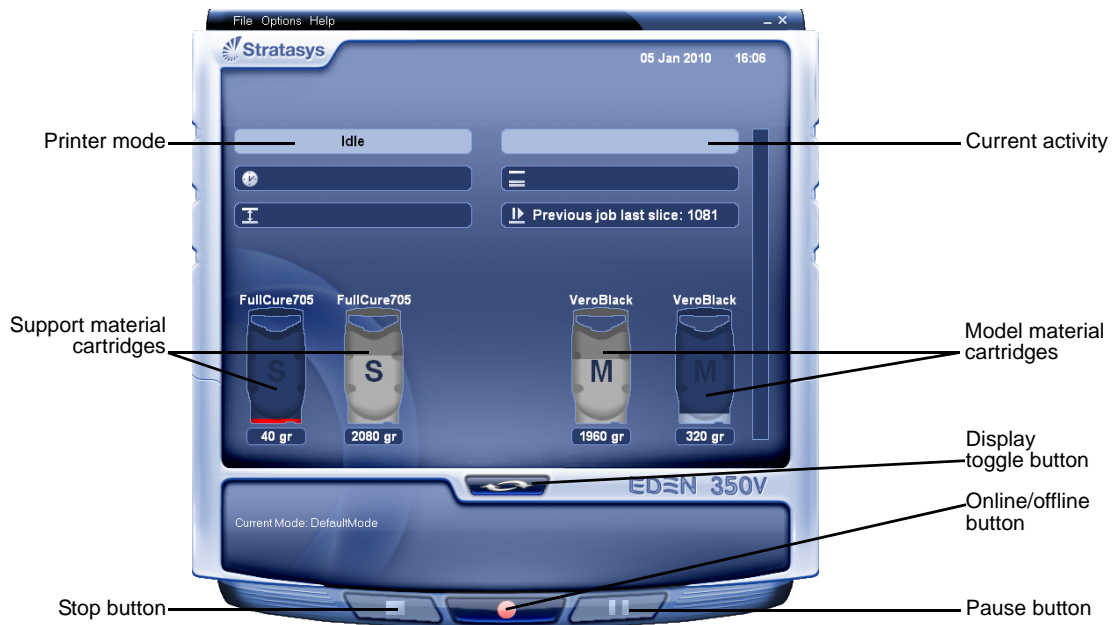

Figure 6-3: Eden350V interface
The Eden printer interface screen opens (see figure 6-3). All monitoring and controlling of the printer is done from this interface.
Eden350V printers use two cartridges of Model material and two cartridges of Support material, each weighing 3.6 kilograms when full. A graphical representation of the cartridges loaded and their current weight appears in the printer interface (see figure 6-3).
4. Check the printer interface to make sure that the new cartridge is detected and that its weight is displayed (see figure 6-3).
2. Make sure that there is sufficient Model and Support material loaded, as indicated in the printer interface (see figure 6-3). You may want to replace the cartridges of Model and Support material currently loaded in the printer to avoid the need for replacing them during printing.
1. If the printer is in offline mode, switch it to online mode by clicking the red button at the bottom of the printer interface (see figure 6-3 on page 3).